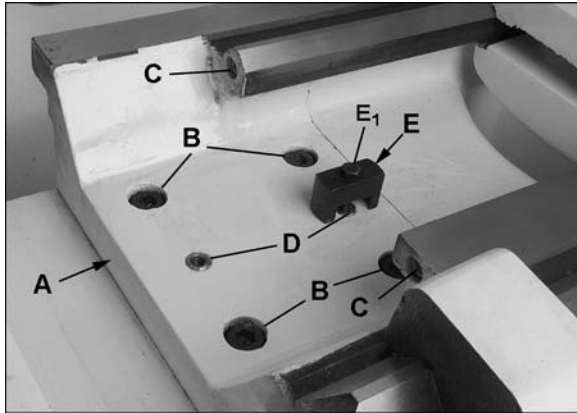

Figure 41 – Gap section
1. To remove the gap section (A, Figure 41), remove four socket head bolts (B) and two socket bolts at the ends of the rails (C).
2. Remove the two tapered alignment pins (D) by placing the provided gap bridge pin driver (E) over them and threading the screw (E₁) down into them, until the pins are loosened enough to be pulled out.